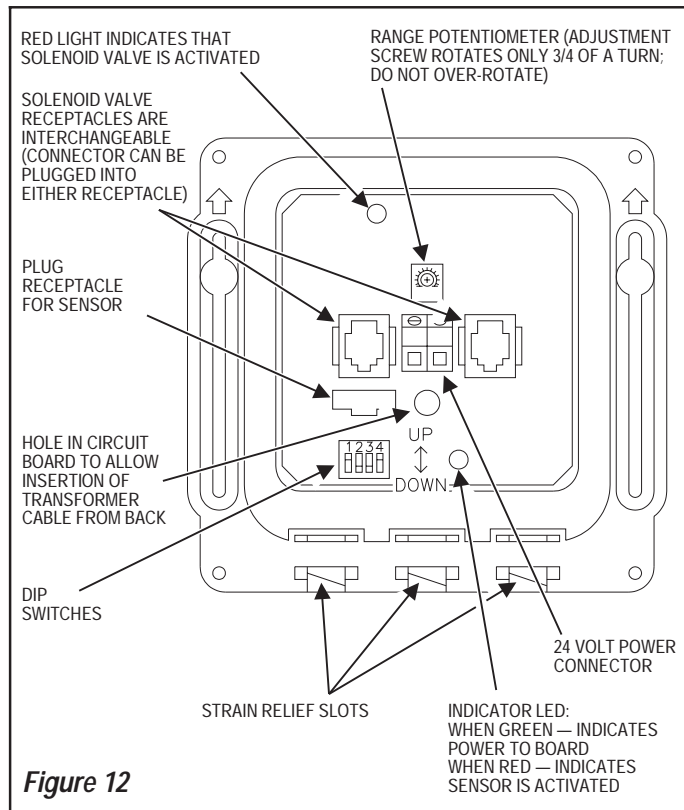

Figure 12
**Note:** The Control Module is equipped with two LED lights. When the Board is being powered by the Transformer, one LED will illuminate green. When the Sensor is activated, this LED will change to red. A second red LED illuminates when the Solenoid Valve is activated. Refer to Figure 12.
The Range Potentiometer and Dip Switches are located in the Control Module as shown in Figure 12.
Refer to label on cover of Control Module along with the following instructions to set the desired Time Out. The Dip Switches used to set the Time Out are located in the Control Module as shown in Figure 12.